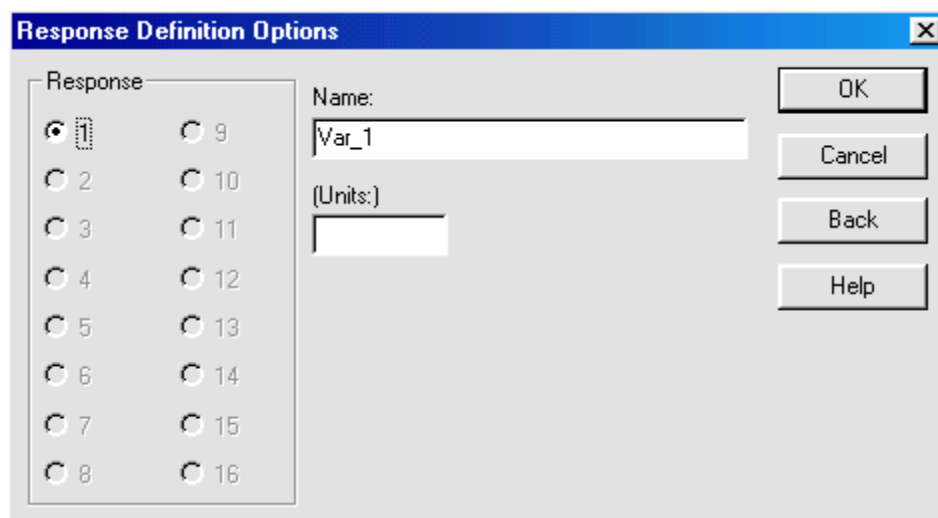

Figure 9-3. Response Definition Options Dialog Box
5. Click OK to display the Response Definition Options dialog box shown in Figure 9-3.